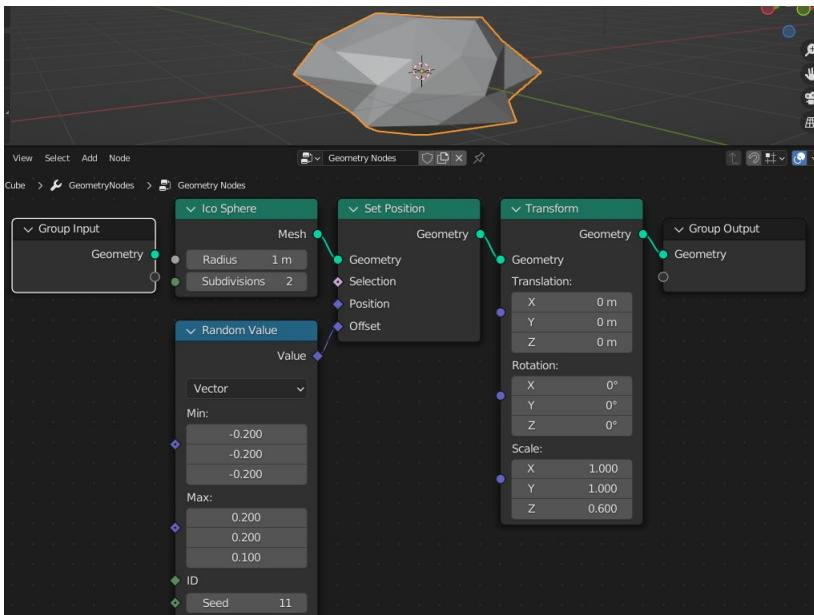

Figure 14-1 Using geometry nodes to create a rock
4. You are now going to add some nodes to make the regular ico sphere a little more random as shown in Figure 14-1. First of all add a new node by selecting **Add ▾ Geometry ▾ Set Position** and drop it onto the output connector from the ico sphere node. Notice that there are three other diamond shaped inputs to the new node which indicate that they use a different type of data from the circular inputs and outputs. The diamond connections relate to a finer level of detail within the geometry, in this case each vertex in the mesh can be selected, positioned or offset individually. The introduction of this mechanism was a major change from the first release of geometry nodes and, as a result,
6. In Figure 14-1 you can see that I increased the ico sphere subdivision to 2. Try doing that then change the Seed value in the random value node to see the variety of results. A better alternative is to return the ico sphere subdivisions to 1 then insert a new subdivision surface node after the set position node using **Add ▶ Mesh ▶ Subdivision Surface**.